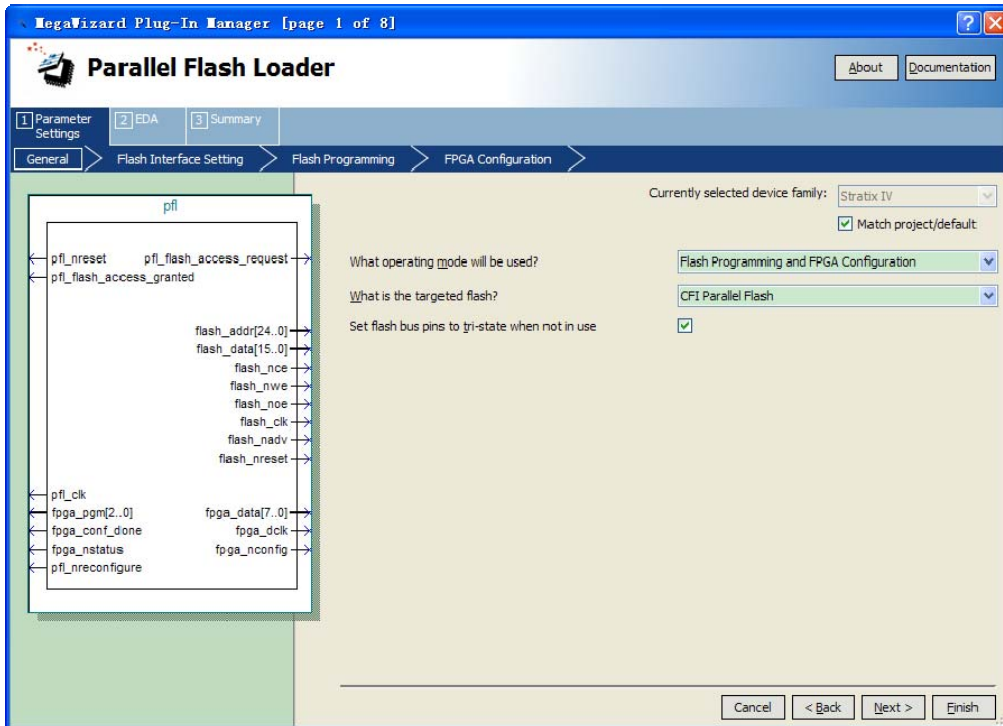

Figure 3-9 Setting the PFL Megafunction Parameters(Step 1)
6. Click **Next**. **General** page appears and specify value as shown in Figure 3-9.